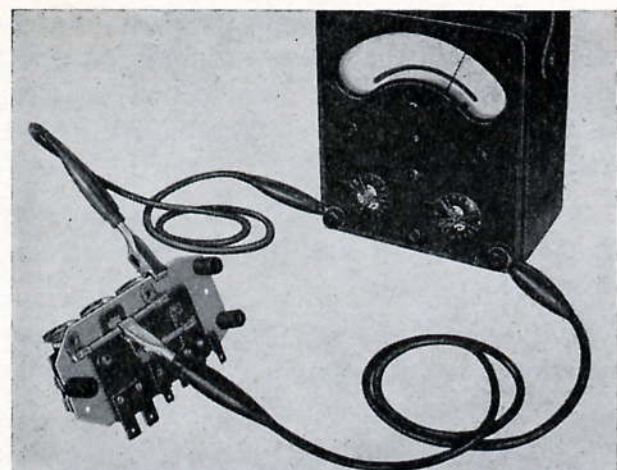

Fig. P.36. Testing the controller swamp resistor
2. Connect an ohmmeter between the centre tag of the resistor and the controller base (Fig. P.36), when a reading of 13.25 to 14.25 ohms should be obtained.